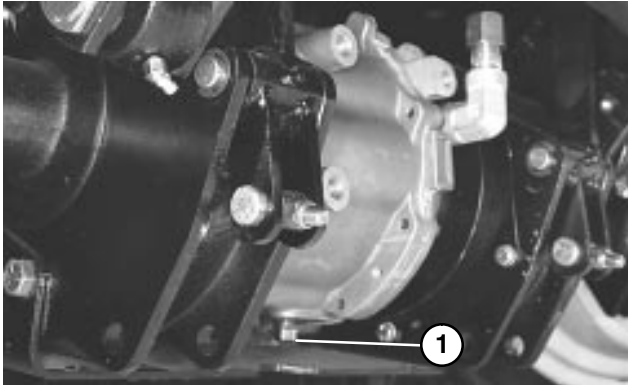

Figure 55
CHANGING FRONT AXLE LUBRICANT (Fig. 55)
2. Clean area around the drain plug (Fig. 55).